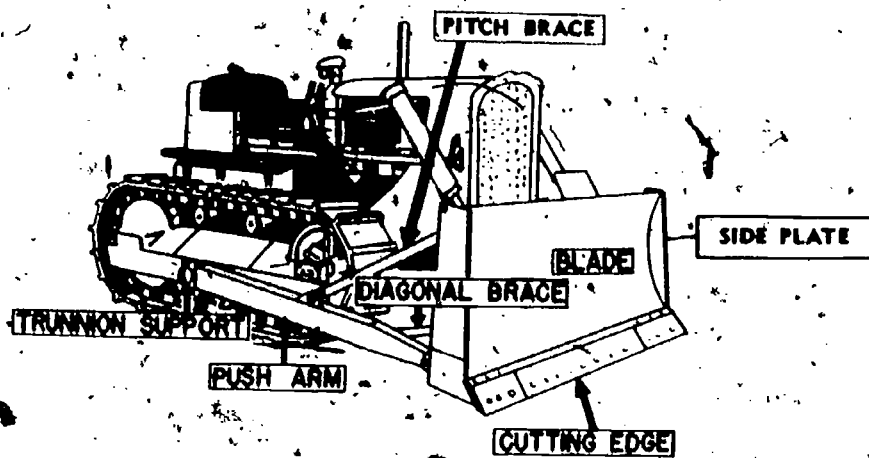

Fig 4-14. Parts of straight blade bulldozer.
- (1) Bulldozers. The bulldozer blade is mounted at a right angle to the long axis of the tractor. The blade can be raised or lowered, tilted slightly or tipped forward or backward, but it cannot be angled (figs 4-14 through 4-16). The pitch braces provide a means of tilting and/or tipping the blade. Some tractors are equipped so that the tilt can be changed hydraulically. Adjustment of the blade to soil conditions will greatly increase dozer production. Bulldozer side-plates help retain a maximum load (fig 4-14). The bulldozer is suitable for straight drifting of material and for trenching or back-filling.